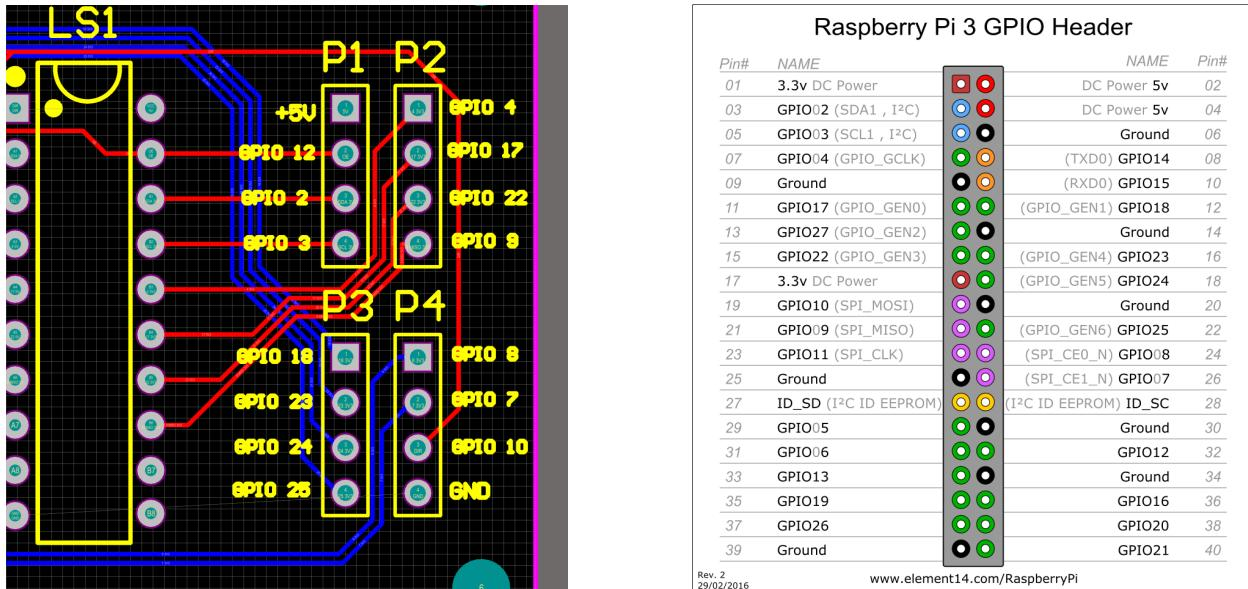

Figure 32: Raspberry pi to Logic Shifter board
The Logic Shifter PCB is not included in the adafruit project. The following steps describe how to include the Logic Shifter PCB in the wiring and routing. Figure 32 shows the pin connections on the logic shifter, labeled with which pin they connect to on the Raspberry Pi. We suggest putting the logic shifter board in the 3D printed head, and routing the wires through the body and up through the PVC pipe "neck".
****Note**** In Figure 32, the pin labels on the board (left) correspond to the pin NAME and not the physical pin number. For example, GPIO 12 is GPIO 12 and **NOT** physical pin #12.